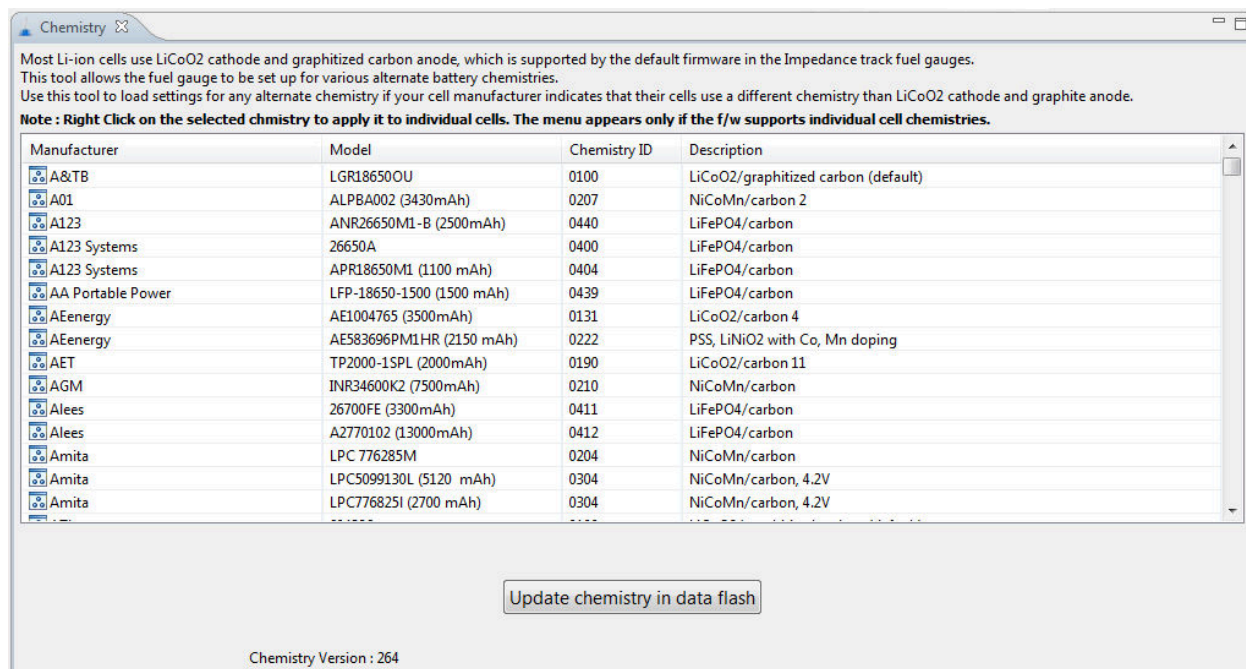

Figure 3-4. Chemistry Screen
- Select the ChemID that matches your cell from the table (see Figure 3-4).